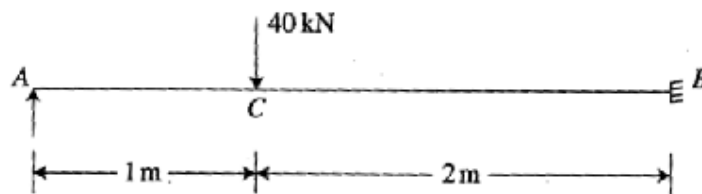

Fig.2
b) Using stiffness matrix method find the end moments at A and B for the given beam as shown in fig.2 [10M]